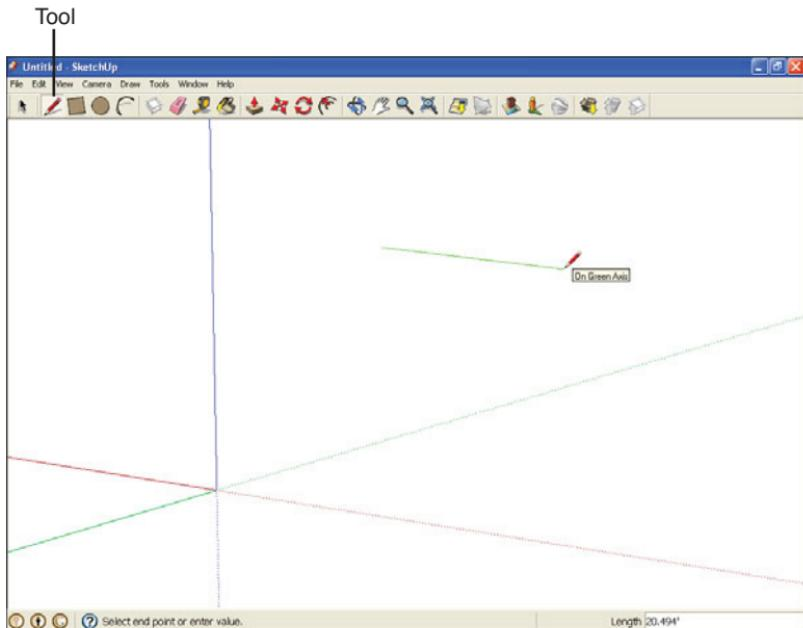

FIGURE 2.19 Use the mouse and the Line tool to draw.
2. Click the **Line tool** to select it (shown in Figure 2.19).
4. Drag the mouse to the other end of the line. You can see a line being drawn in Figure 2.19.
Note that SketchUp automatically aligns your line with one of the axes (the one you're dragging parallel to) so it's easy to draw exactly parallel to an axis. The line is colored to match the axis it's aligned to ($x=\text{red}$, $y=\text{green}$, $z=\text{blue}$). A ToolTip will appear as you're dragging the mouse to tell you what axis you're aligned with (as appears in Figure 2.19).